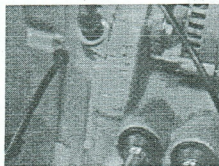

Fig. 1b
1.3. The engine version identification, year of manufacture and serial number are also embossed on the left hand side of engine crankcase and are to be read from bottom to up. (Fig.1b)